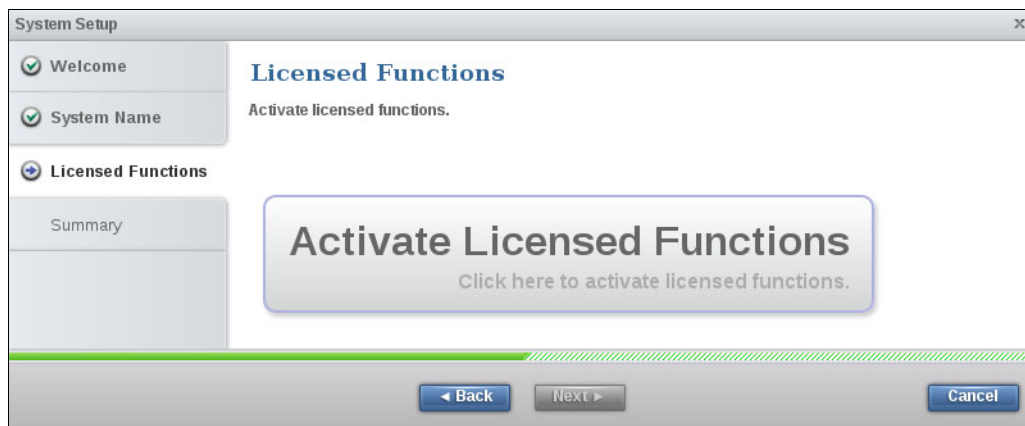

Figure 11-5 System Setup: Licensed Functions window
- Click **Next**. The Licensed Functions window opens. Click **Activate Licensed Functions** as indicated in Figure 11-5.